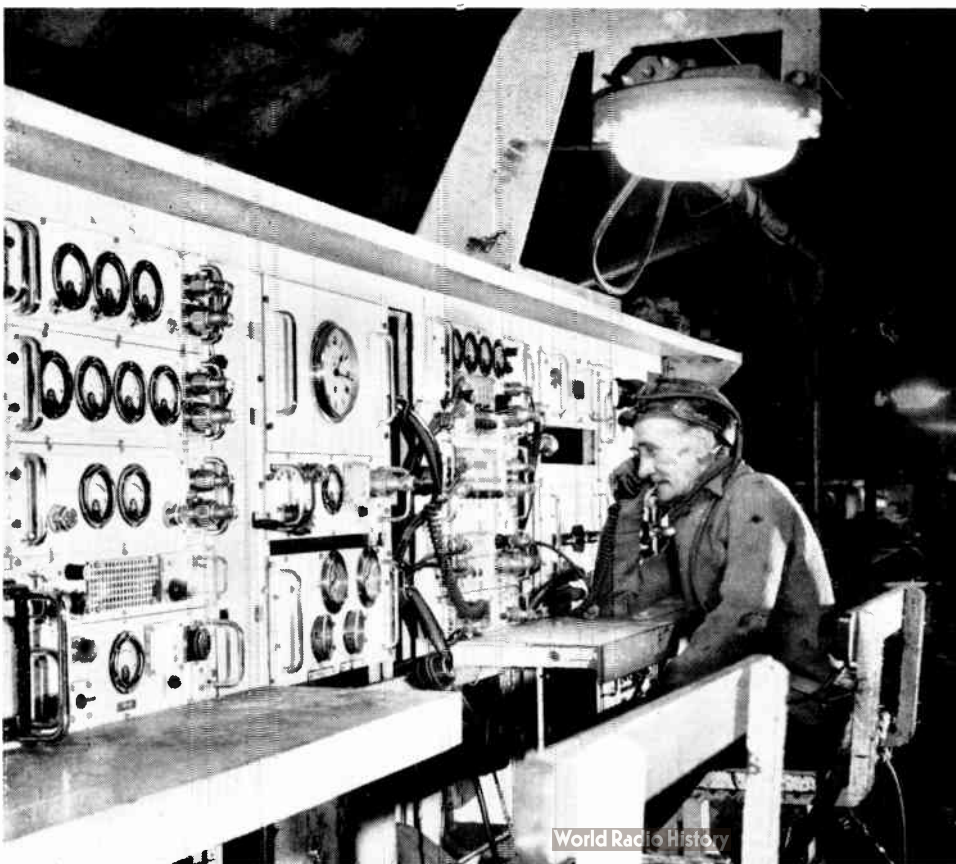

Fig. 2. Underground control console of ROLF I at Newstead Colliery
A.E.I. and was the first of a family of such equipments to be made. ROLF I was installed at Newstead Colliery, Nottinghamshire, the underground control console for which is shown in Fig. 2.